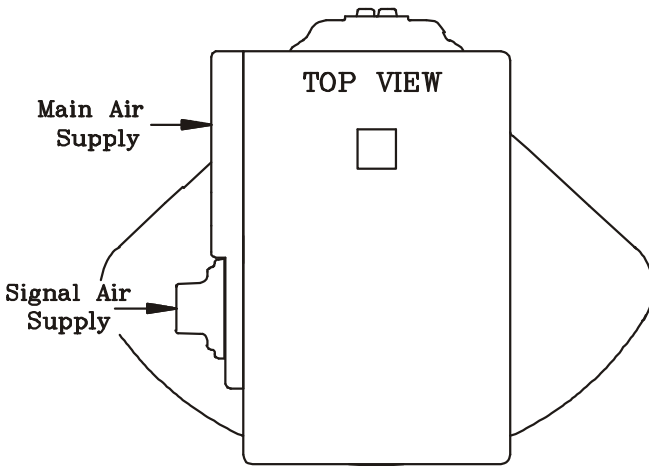

Figure 1. Mid Travel Orientation of Actuator Square and Positioner Box
2.1.1 Move actuator vane to mid travel position, with its output square as shown in Figure 1. This is advisable to prevent subsequent error in orientating positioner coupling. (This is not necessary with spring return actuators as there can be no confusion with square orientation)
2.1.3 Bolt the positioner body to the actuator in the orientation shown in figure 1 taking care that the two O'rings are in place to seal the ports to the actuator (place a small amount of grease onto the O'rings to keep them in place) and that the actuator shaft is centred in the body.
6.1.1 Move actuator vane to mid travel position, with its output square as shown in Figure 1. This is advisable to prevent subsequent error in orientating positioner coupling. (This is not necessary with spring return actuators as there can be no confusion with square orientation)
6.1.3 Bolt the positioner body to the actuator in the orientation shown in figure 1 taking care that the two O'rings are in place to seal the ports to the actuator (place a small amount of grease onto the O'rings to keep them in place) and that the actuator shaft is centred in the hole in the body.